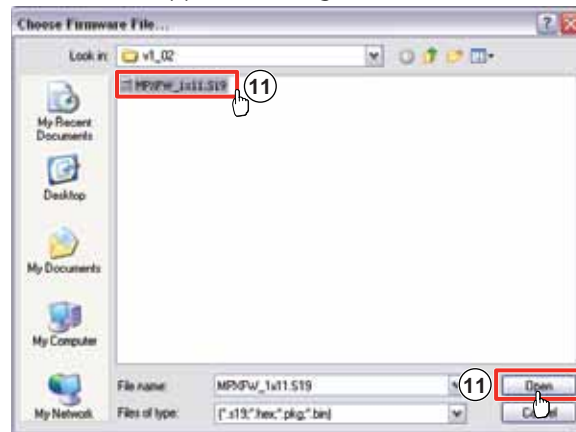

Figure 41. Choose Firmware File Window
10. Select the MPX 866 A matrix switcher and click **File > Open**. The Choose Firmware File screen appears (see figure 41).